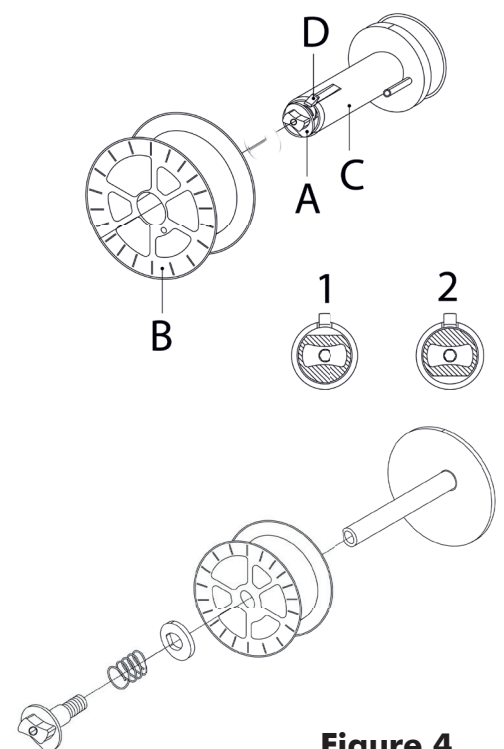
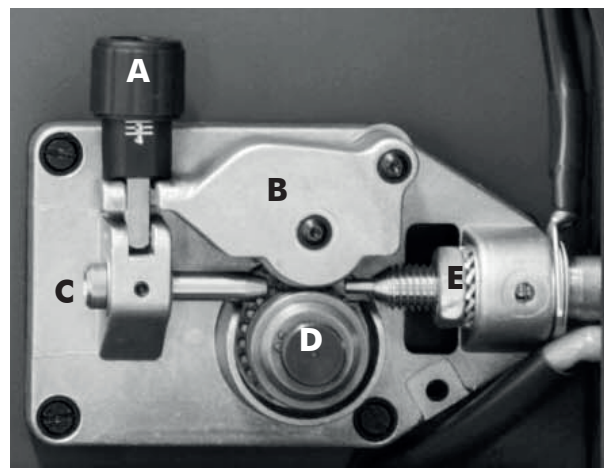

Figure 4
Figure 5
- Loosen the nut (A) of the spool holder (position 1) (brake drum). In the case you are replacing the wire spool, extract it by pushing the snap tongue (D) (Fig 4). Remove the plastic protection from the spool. Place it on the spool holder. Tighten the lock nut (A) turning it to position 2.
- Remove the wire spool (B) from the spool holder (C).
- Loosen the nut (A), remove the spring and the washer; remove the spool holder (C) from the pivot.
- Tighten the lock nut (A).
**Tighten nut (A) to appropriate tightness. Excessive pressure strains the wire feeding motor. Too little pressure does not allow the immediate stop of the wire spool at the end of the welding.**
- Loosen and lower the plastic knob (A) (Fig.5). Open the pressure arm (B) of the feeder. Extract the wire from the torch liner.